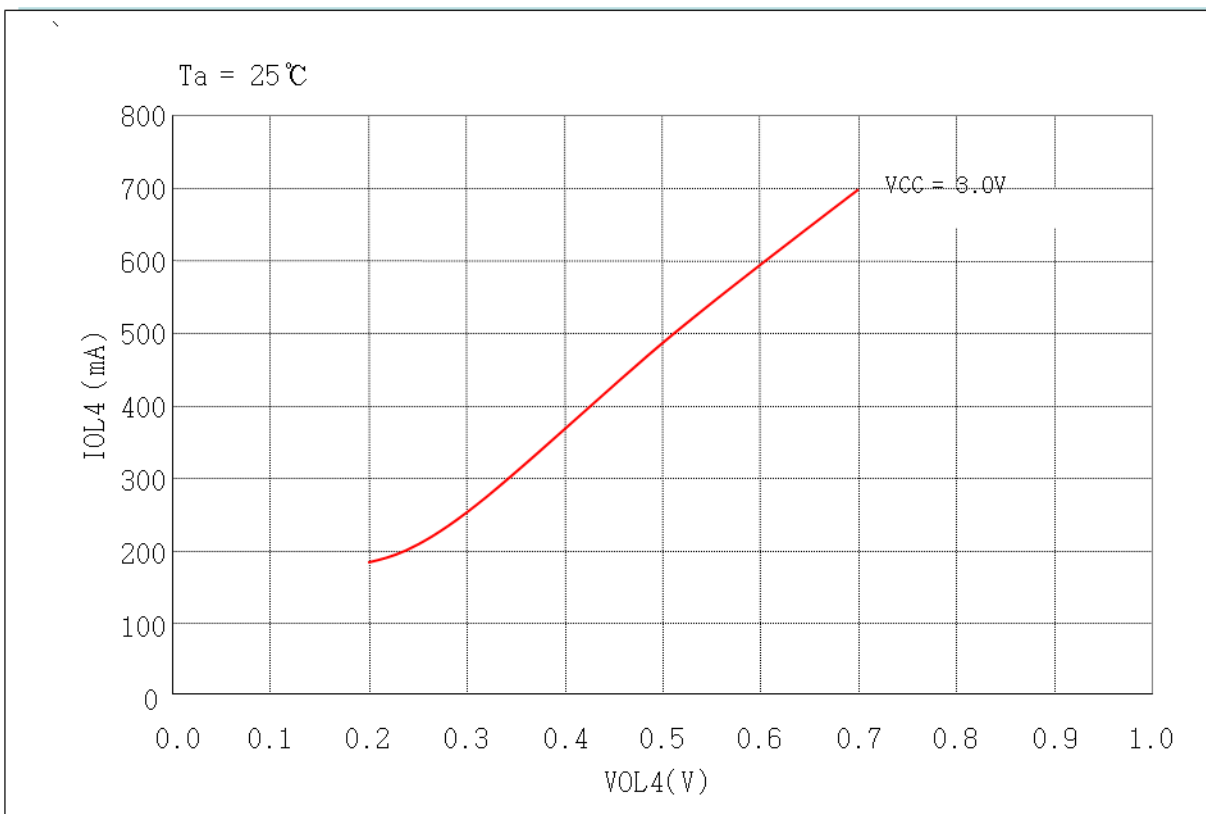

Fig 7-2. IOL4 vs. VOL4 Graph (REMOUT Port with built-in Transistor)
*2 Refer to Fig.7-2 < I_{OL4} vs. V_{OL4} Graph >